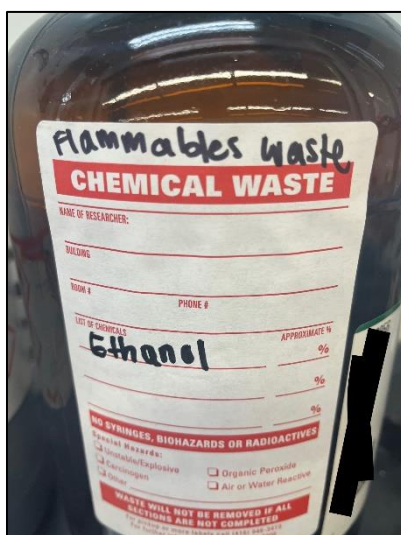

Figure 2
- 13.1. NO chemical abbreviations/shortform-**FULL NAMES ONLY** (Figure 2).